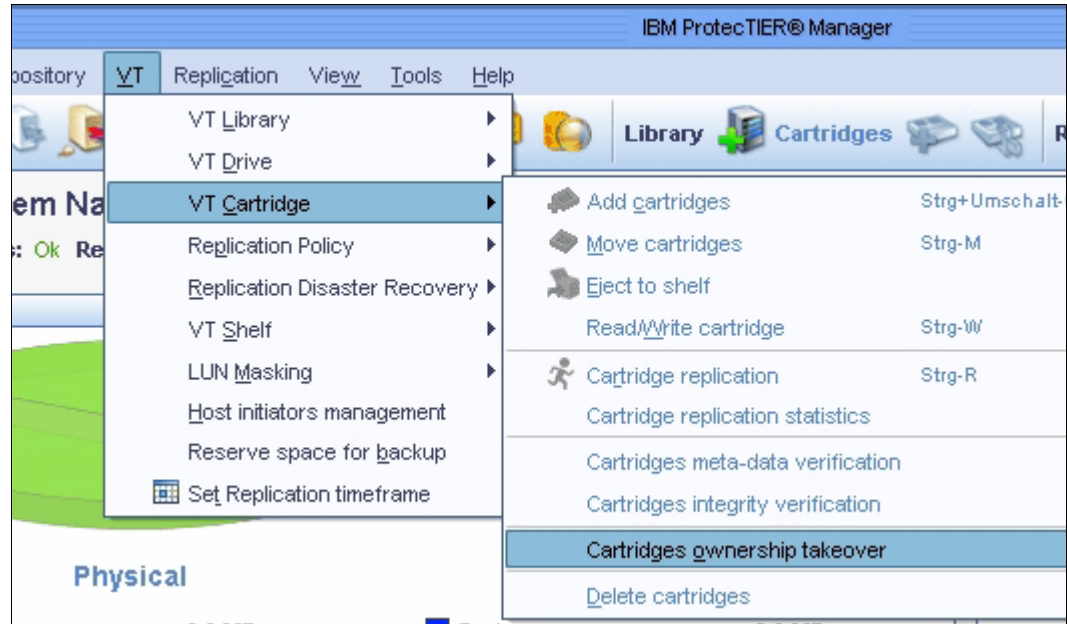

Figure 11-22 ProtecTIER VTL cartridge ownership takeover menu
1. Select **VT** → **VT Cartridge** → **Cartridge ownership takeover**. The Cartridge ownership takeover window opens (Figure 11-22).